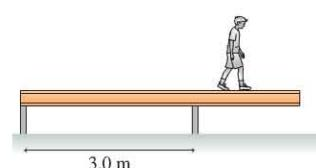

FIGURE P8.43
43. A 40 kg, 5.0-m-long beam is supported by, but not attached to, the two posts in Figure P8.43. A 20 kg boy starts walking along the beam. How close can he get to the right end of the beam without it tipping?